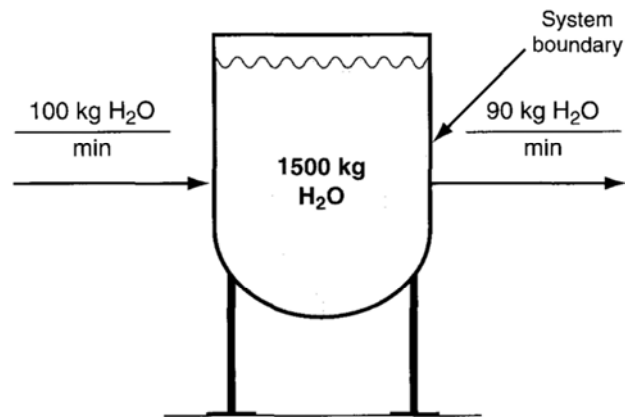

Figure 6.4 The condition of the open unsteady–state system with accumulation after 50 minutes.
- ★ Figure 6.4 shows the system after 50 minutes of accumulation (Fifty minutes of accumulation at 10 kg/min amounts to 500 kg of total accumulation).